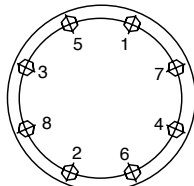

Figure 1
9. Tighten all flange bolts in a criss-cross pattern (see Figure 1) to the maximum torque recommended for the metal mating flanges. The rubber flange can not be over-torqued. It is